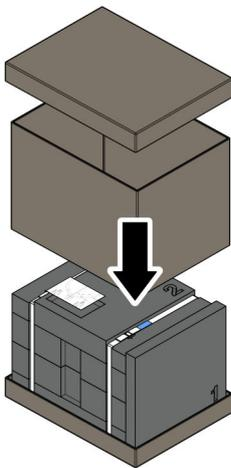

Fig. 100 Packing the robot box
12. Use the outer packaging to pack the robot box Fig. 100.